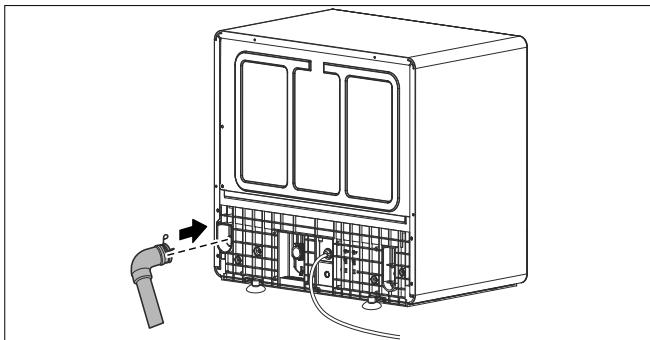

Fig. 13 – Water outlet connection
Insert the drain hose with the connection for the water outlet (10) to the back of the appliance and secure it using a clamp (see Fig. 13).